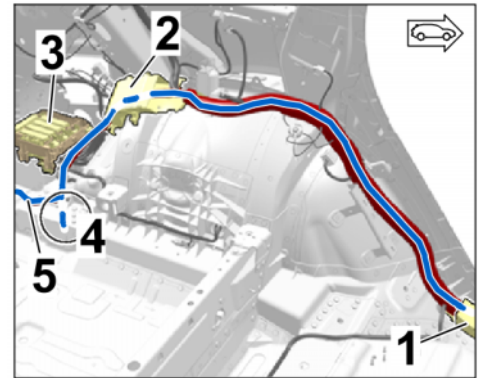

Figure 32
3.2.3 Wheel housing area. left (⇒ *Figure 32*)